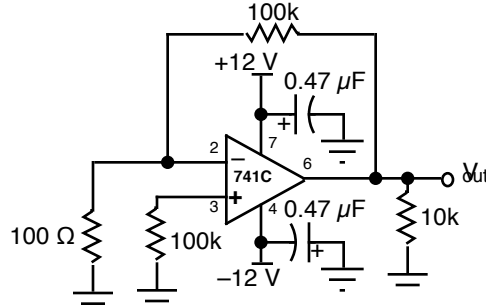

Fig. 6.4
b) *Output Offset Voltage* Connect the circuit of Fig. 6.4 using a 741C op amp.